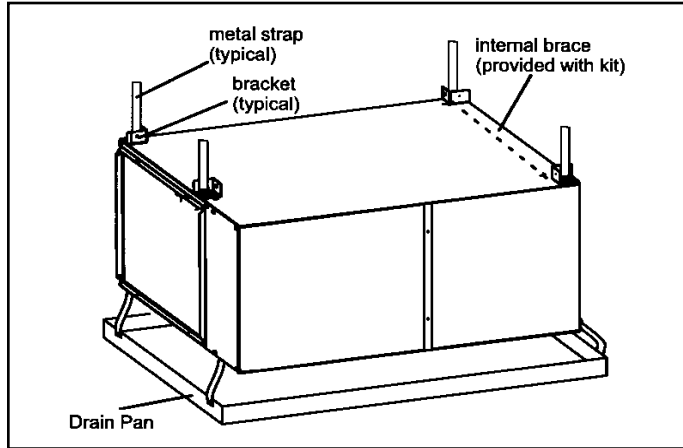
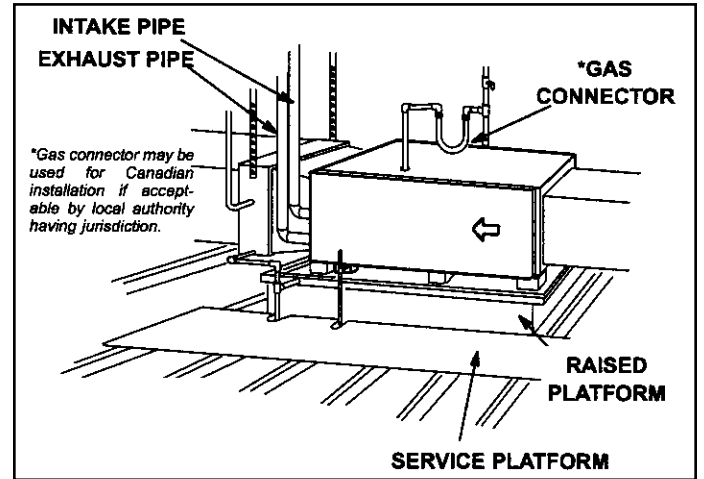

Figure 19. Typical Horizontal Application
Figure 20.
This furnace may be installed in either an attic or a crawl space. Either suspend the furnace from roof rafters or floor joists, as shown in Figure 19, or install the furnace on a platform, as shown in Figure 20.
2. Construct a raised wooden frame and cover frame with a plywood sheet. If unit is installed above finished space, fabricate an auxiliary drain pan to be installed under unit. Set unit in drain pan as shown in Figure 20. Leave 8 inches for service clearance below unit for condensate trap.